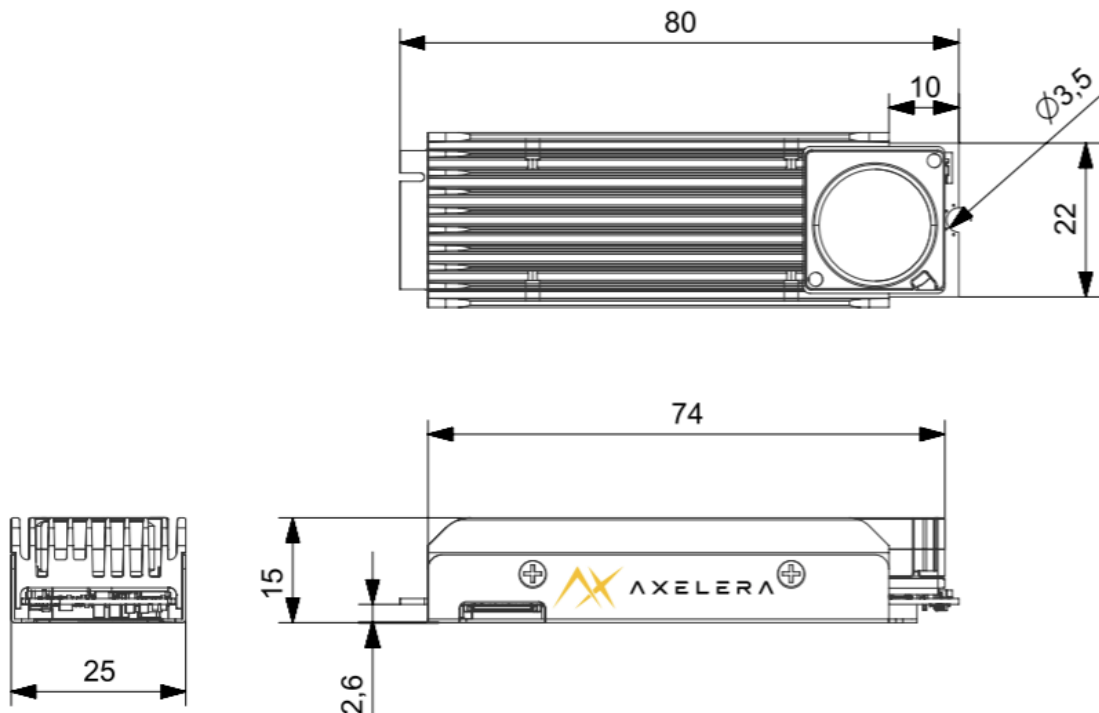

Figure 3: The fan-cooled heatsink for the Axelera Embedded 113m card
- Figure 3 shows the fan-cooled heatsink for the Axelera Embedded 113m card.